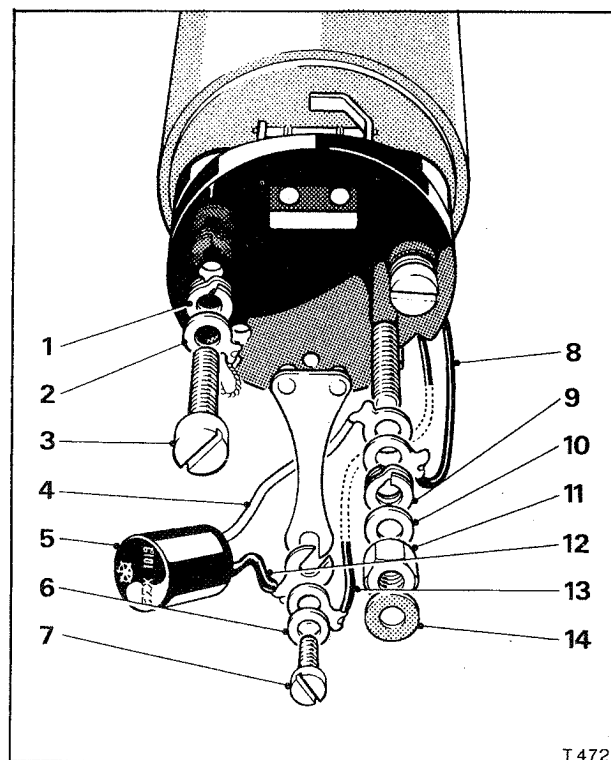

Fig. K20 Fitting the pedestal assembly to the coil housing
2. Assemble the square headed 2BA terminal stud to the pedestal (see Fig. K20), the inward face of the pedestal is recessed to take the square head of the terminal stud. Fit the tag of the red lead from the condenser and the tag of the short black coil lead to the terminal stud as it is fitted through the pedestal.